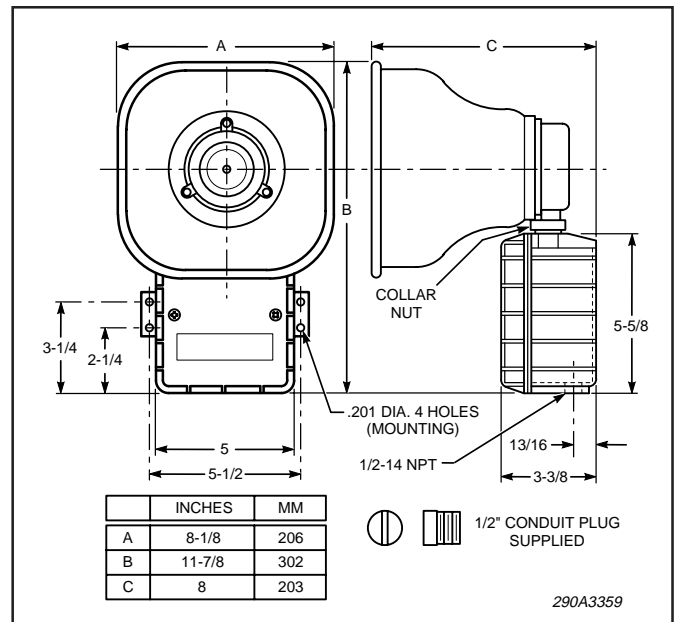

Figure 1. Model ASHH Dimensions.
#### B. Mounting Arrangements (see figure 1).
mounting bracket) as a template, scribe drill position marks on the mounting surface. See figure 1 for mounting hole locations and dimensions.
f. Reposition speaker projector if necessary to obtain desired sound coverage. Loosen collar nut (see figure 1) and move projector to desired position.